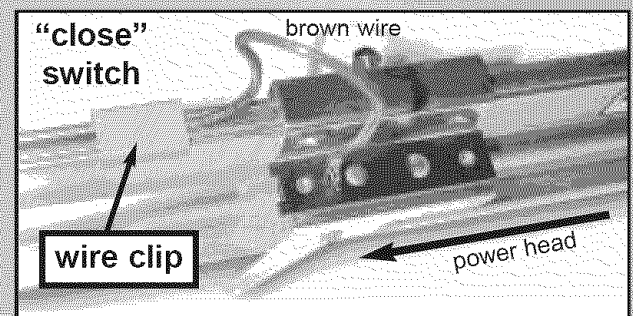

Fig. 1-20
- Leaving some slack in wire (**Fig. 1-20**), run wire down inside groove in top of rail back to power head.
- Use wire clip [44] to help maintain slack. **Fig. 1-20.**